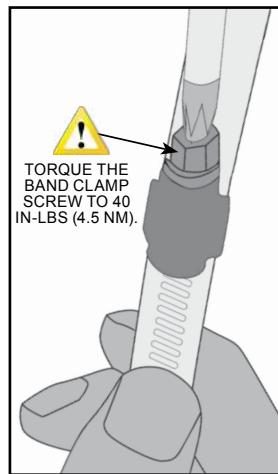

Figure 6: Band clamp screw torque
6. Torque the band clamp screw to 40 in-lbs (4.5 Nm). See *Figure 6*.